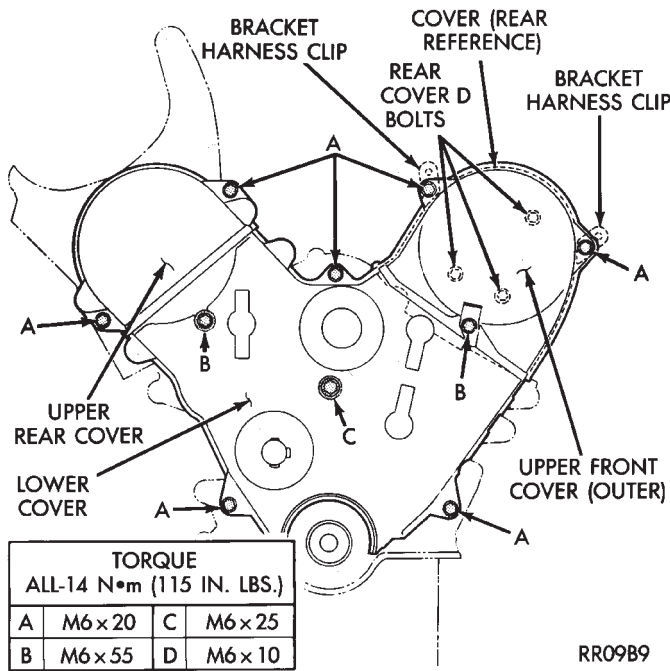

Fig. 11 Timing Belt Covers
(11) Remove timing belt covers (Fig. 11).
(1) Remove the upper front outer timing belt cover by loosening the three attaching bolts. (Fig. 11).
(2) Inspect both sides of the timing belt drive & back. Replace belt if any of the following conditions exist.